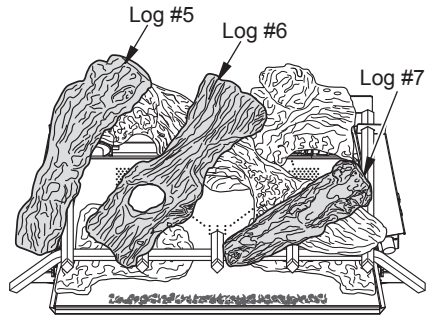

Figure 23 - Installing Logs #5, #6 and #7
4. Insert pin on the bottom of log #5 into hole in log #4, with the other end placed on grate base (see Figure 23).
5. Insert pin on the bottom of log #6 into hole in log #4, with the other end placed on grate base (see Figure 23).
6. Insert the pin on the bottom of log #7 into hole in log #4, with the other end placed on grate base (see Figure 23).